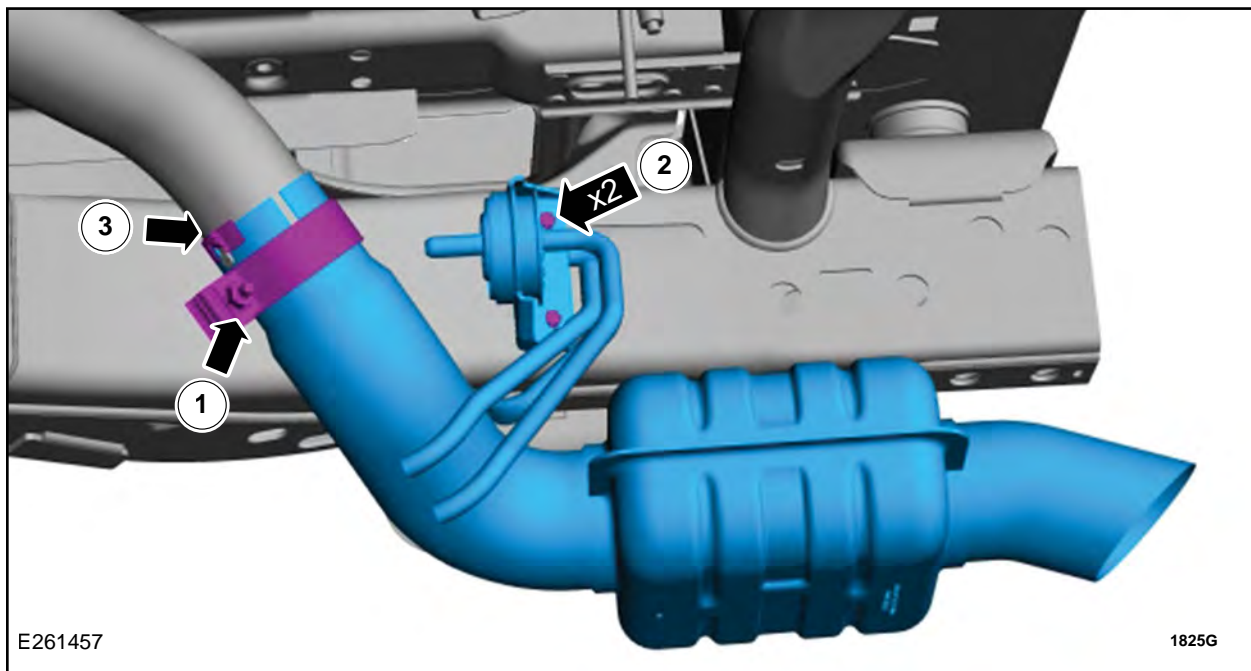

FIGURE 6
19. Loosen the muffler and tailpipe clamp. See Figure 6.
20. Remove the bolts from the isolator. See Figure 6.
21. Release the locator tab releasing the muffler and tailpipe. See Figure 6.